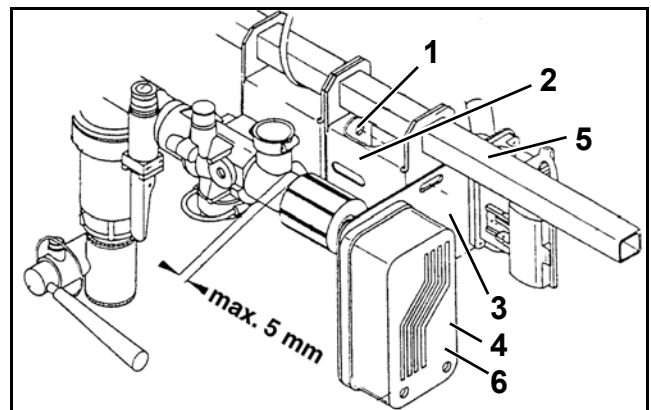
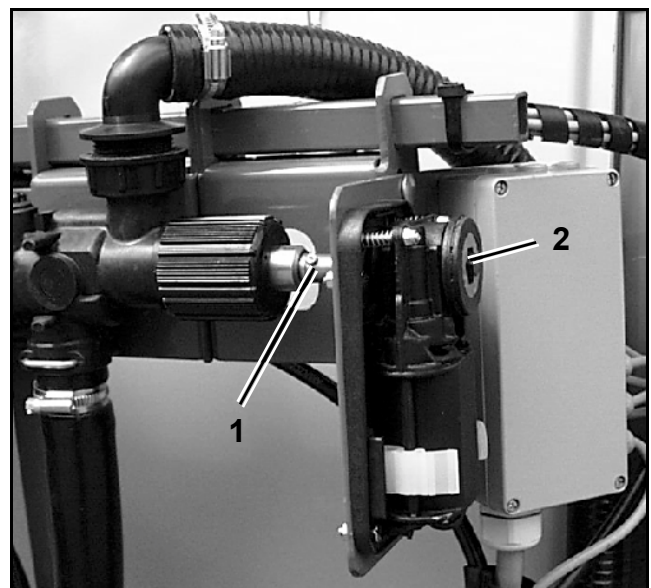

Fig. 138
Fig. 139
- Remove the screw joint (Fig. 138/1) from the control device retainer (Fig. 138/2).
- Move the control retainer with the flange plate (Fig. 138/3) for the electric motor (Fig. 138/4) on the bracket (Fig. 138/5) to the right hand side until the electric motor and the metering spindle (Fig. 139/1) of the automatic metering are no longer connected.
- Remove the lid (Fig. 138/6) from the housing.
- Re-adjust the hex. bolt (Fig. 139/2) by one "catch".